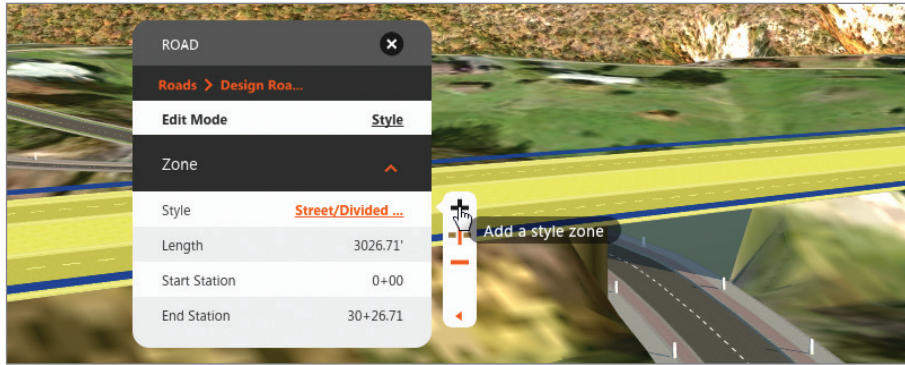

FIGURE 2.19 Launching the Add A Style Zone function
- On the zone flyout, click Add A Style Zone, as shown in Figure 2.19. The Select Style dialog will open.